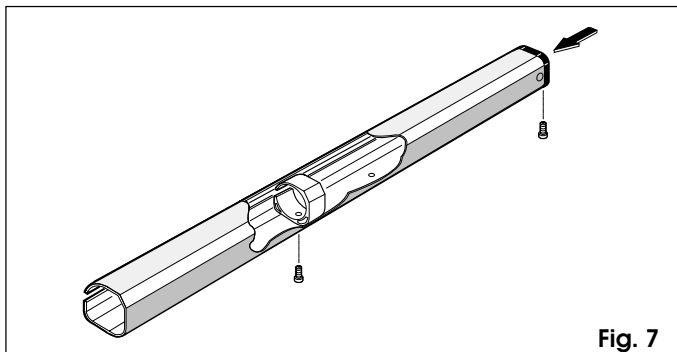
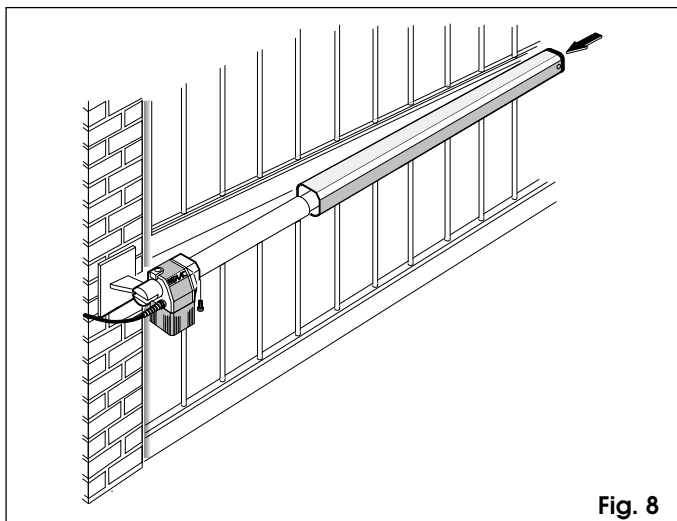

Fig. 7
Fig. 8
12) Fit the cover (fig. 7) on the operator as shown in fig. 8.
N.B.: Fix the guide support of the cover on the hole furthest from the cap (fig.7).